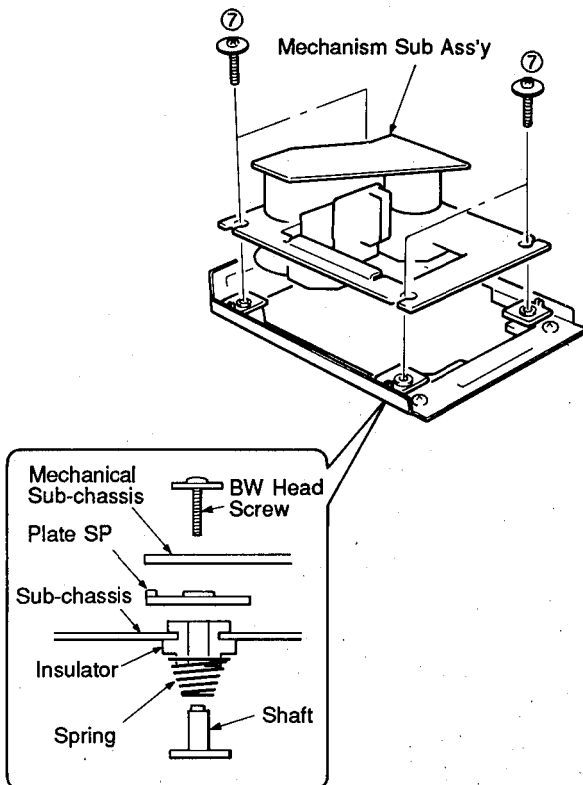

Fig. 3
- d. Remove the Mechanism Sub Ass'y by removing 4 screws (⑦) in Fig. 3.